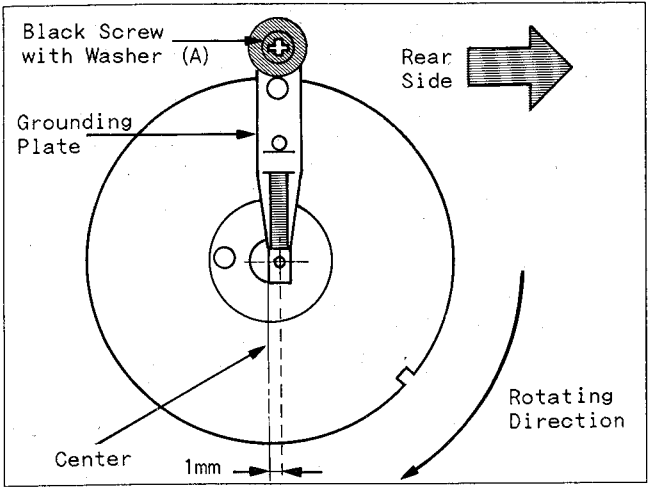

Fig. M1
Place the unit left side down. Check to see if the Grounding Plate is properly set in a position just less than 1mm (but not more than 1mm) as measured from the center of the plate to the center of the Cylinder Shaft as shown in Fig. M1. If required, adjust the Grounding Plate position by loosening Black Screw with Washer (A).